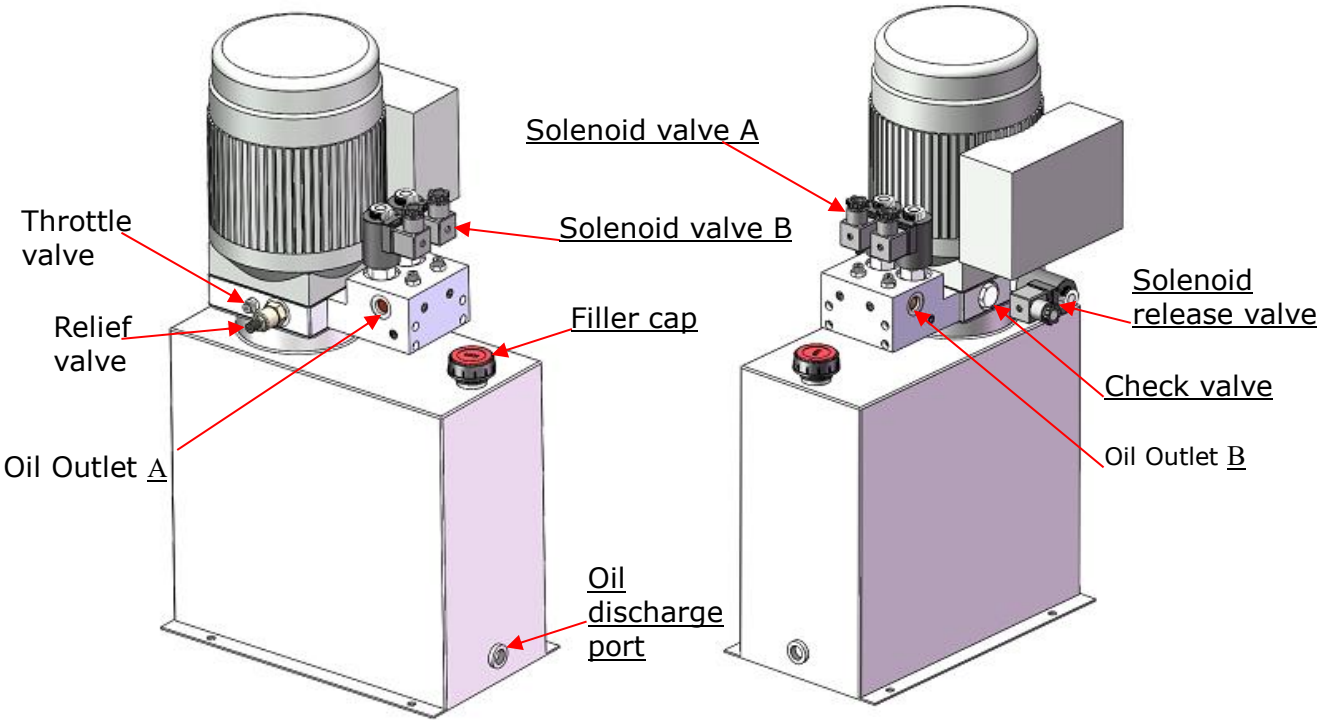

Fig. 41
CONTROL CABINET (fig41))
Illustration of hydraulic valve for power unit (fig41)
- a) Turn the Two-way valve to oil filling position (See Fig. 41), push button Up on the remote control and fill oil to the secondly cylinder until it full, and then hold down the button Lock for a while for bleeding air. Repeat this step until no air in the hydraulic system (normally repeat two time the air will be bleed off).